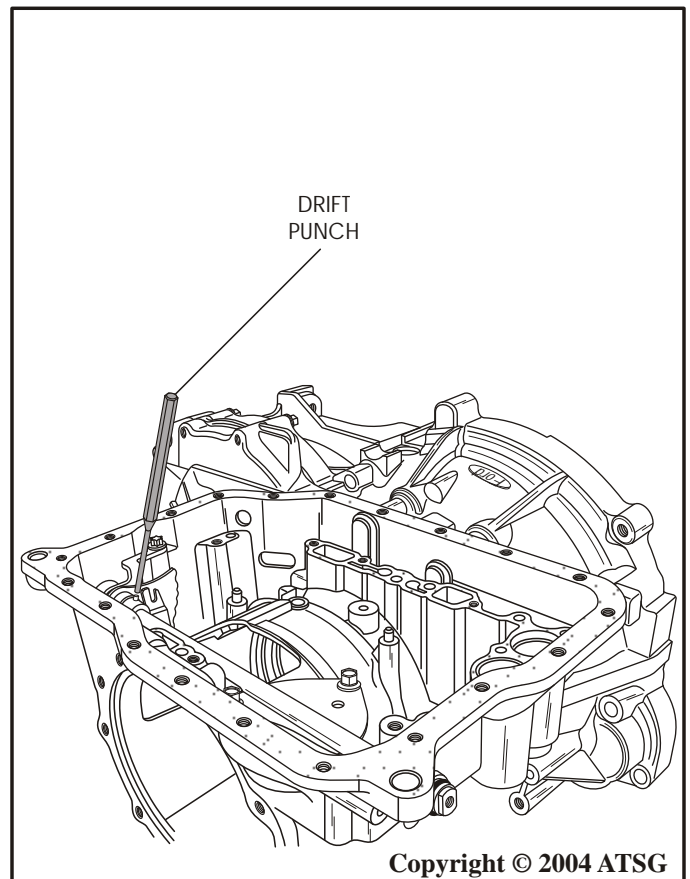

Figure 155
9. Align the manual lever shaft inside of internal control lever assembly and install new roll pin, as shown in Figure 155.